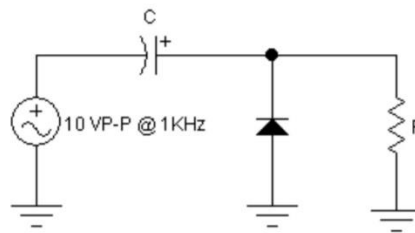

Figure 4
- 1- Build the clamper circuit shown in figure 4. Obtain 1uf capacitor and 33 Kohm load resistor from your kit.